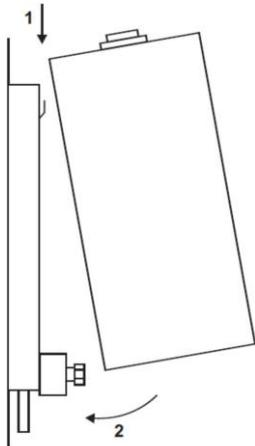

Fig.4
c. Fit the boiler to the Jig - See Fig. 4